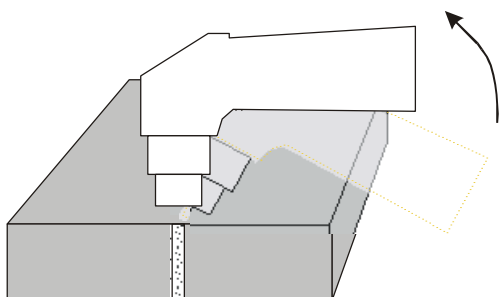

Fig. 3
6. We recommend starting cutting at the edge of the material. If needed to start from the centre of the material, or to cut hole into the material, slightly tilt the torch head and gradually it straighten into a vertical position so the spraying material would not damage the cutting tip (see Figure 3). This workflow must always be followed, if the thickness of material is above above 3 mm.